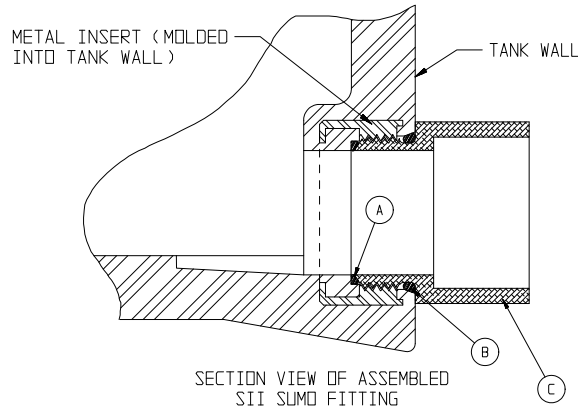

Figure 6.5
6.5.1 The SUMO fitting shall be constructed with 1 ea. smaller o-ring (A), 1 ea. larger o-ring (B), and 1 ea. SUMO adapter (C). Refer to Figure 6.5 for part identification. **NOTE - The tank is shipped with a shipping stabilizer installed in the SUMO outlet. NEVER move the container without the shipping stabilizer installed.**
6.5.3 Install the smaller o-ring inside the SUMO molded-in fitting. Make sure it is placed in the o-ring seat area evenly. Carefully stretch the larger o-ring enough to install it on the SUMO adapter. Only a SII SUMO adapter may be used. Use of a non-approved adapter will void the tank warranty. The o-ring may be lubricated with a suitable lubricant such as water. Do not use silicone or Teflon sealants. Screw the adapter in until the step on the adapter is flush with the tank wall. Do not over-torque the adapter (25 ft. - lbs. of torque maximum). Figure 6.5 shows a sectional view of an assembled SUMO fitting.